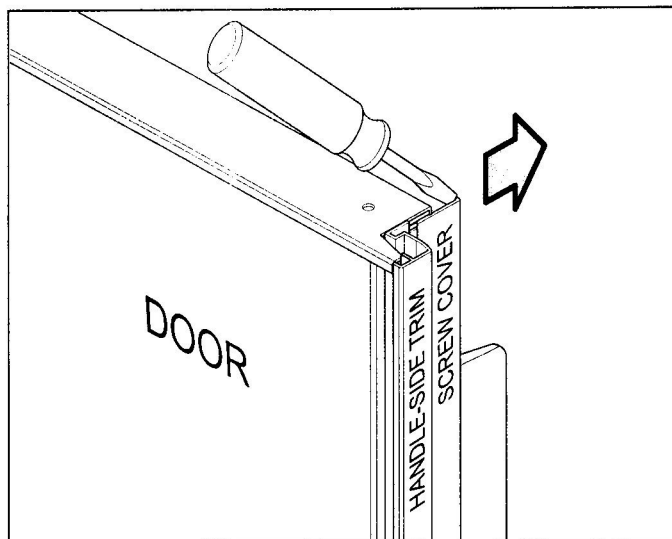

Figure 7-85. Screw Cover Removal
1. At the top of the door, insert a flat blade screwdriver into the channel of the screw cover and push the cover back, disengaging it from the handle or trim (See Figure 7-85).